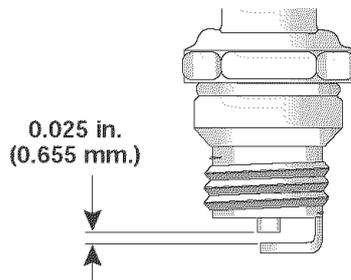

Fig. 28
3. Replace cracked, fouled or dirty spark plug. Set the air gap at 0.025 in. (0.655 mm.) using a feeler gauge (Fig. 28).